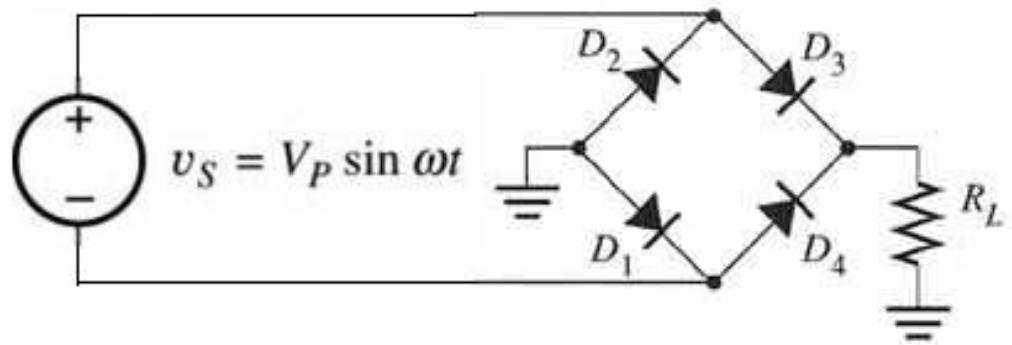

Figure 4 Bridge Rectifier schematic
Rectifier. A common and even better implementation of the Full Wave Rectifier utilizes four (4) diodes: it is referred to as a Bridge Rectifier. (The reason it is even better than a common Full Wave Rectifier is because it does not require a centrally tapped DC reference point.) Figure 4 shows a Bridge Rectifier circuit. To provide a new ground for the full-wave rectified circuit, **a transformer between the power source and the diodes is required.** This allows both the positive- and negative- going portions of the input-voltage waveform to pass to the output node. (This circuit does not need to be built in lab.)